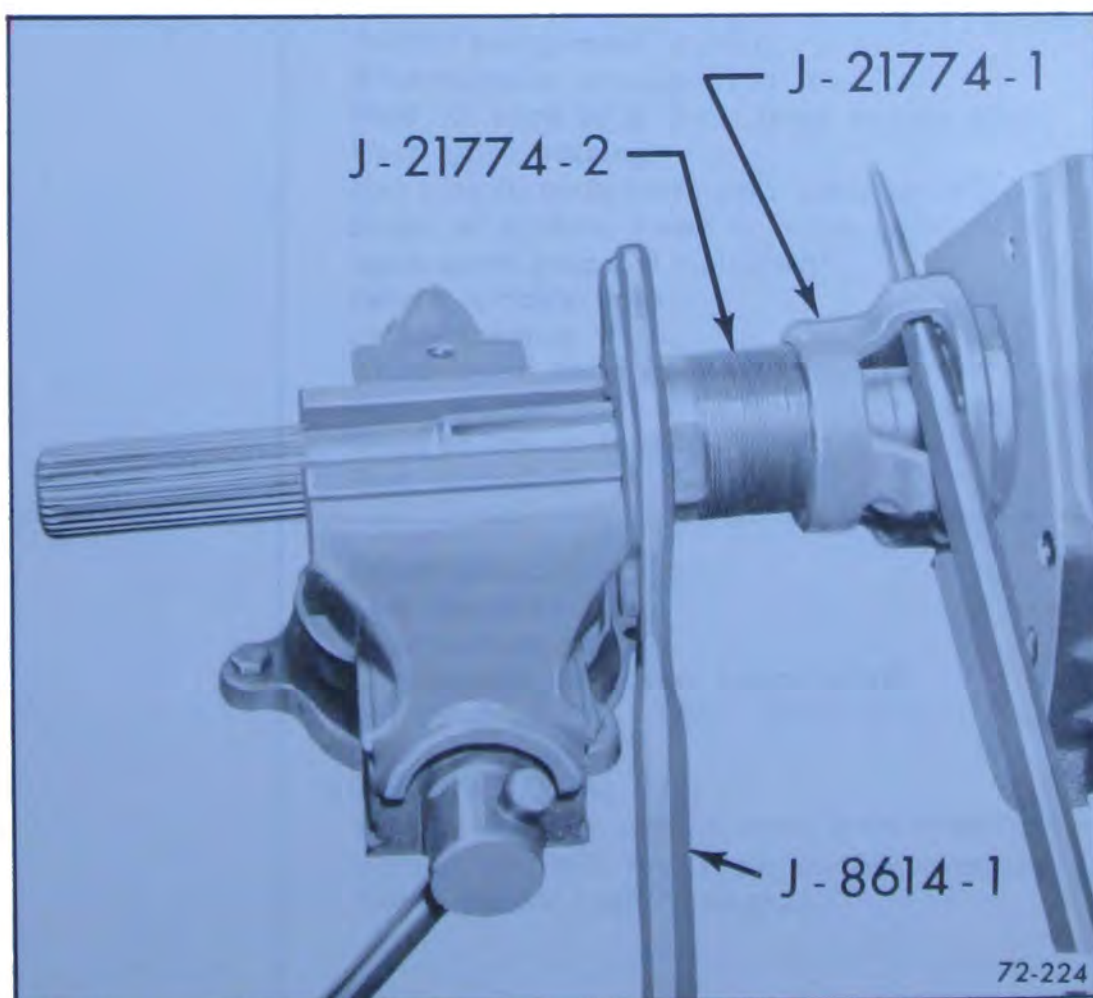

Figure 72-224—Installing Rear Bearing
22. Install rear bearings as follows: See Figure 72-224.